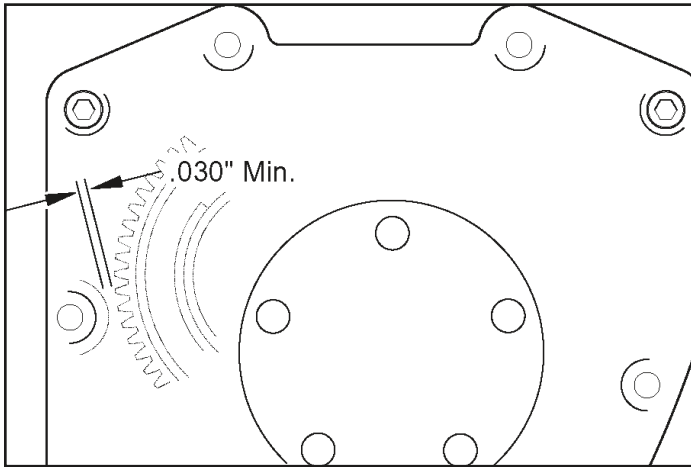

Figure 8
- 30.** Press a small piece of clay or kneadable putty on cam cover mounting boss as shown. See **Figure 8**. Carefully hold cover and cover gasket in position against crankcase. Install mounting bolts (4) near corners of cover finger tight. Push or tap cam cover towards front of engine.